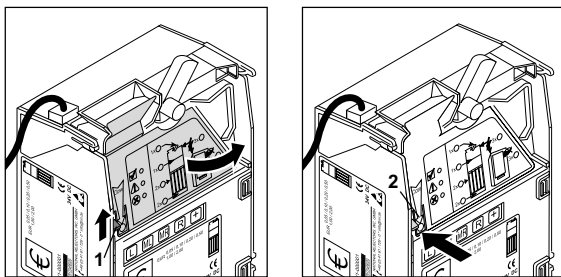

Fig. 8: Opening and closing the coin validator flight deck
- 2 Press lever **1** upwards and open the coin validator (Fig. 8).
- 4 Press "Close" arrow **2** so that the metal spring engages behind the lever **1** in order to close the coin validator again (Fig. 8).